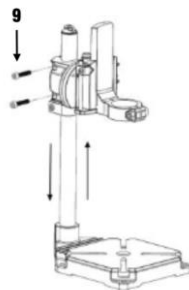

Fig. 5
1. Adjust the height of the head in accordance with the workpiece size and then tighten the head lock bolts (#9) using the appropriate hex key (Fig. 5).